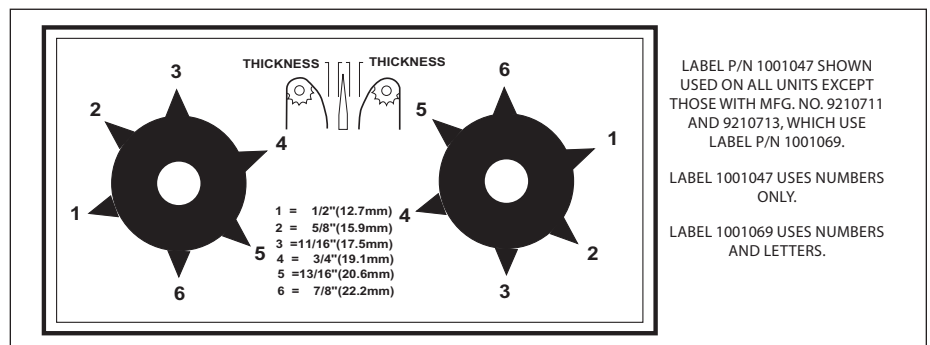

Figure 7. Bun Thickness Compression Knobs
1. Set the Bun Thickness Compression Knobs (Figure 7) to the desired settings.
NOTE: The Bun Thickness Compression Knobs (Figure 7) must be set to "6 & 6" or "6 & F" prior to measuring or removing or reinstalling the Conveyor Belt Chains.